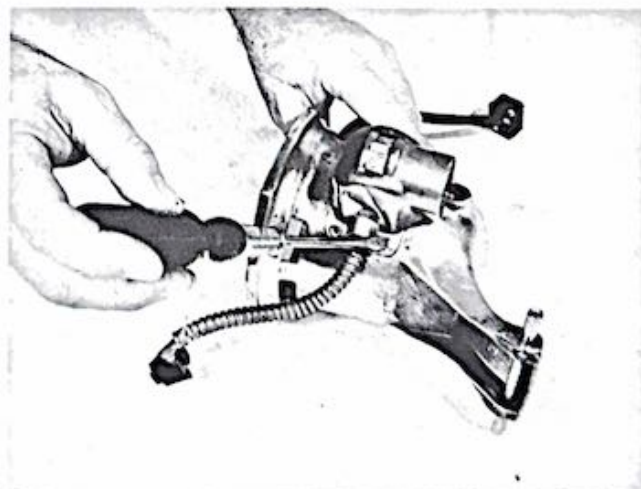

Figure 1-6. Removing foot switch housing
(1) Remove the four screws (32, fig. 1-1) that secure the foot switch housing (33) to the motor housing as shown in figure 1-6.